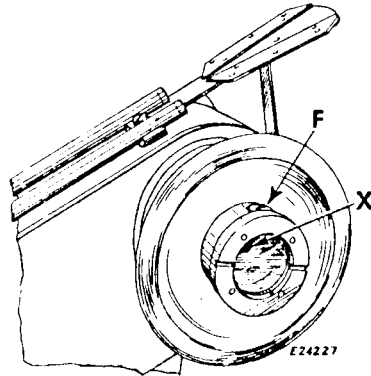

Fig. 3
2. Turn the machine pulley to bring the screw plug **F**, Fig 3 to the top, remove this plug and fill the reservoir practically to the top. THE OIL LEVEL IN THIS RESERVOIR SHOULD NEVER BE ALLOWED TO GO BELOW THE HOLE **X**, FIG. 3 AT THE CENTER OF THE ARM SHAFT. If the oil is down to the bottom of this hole, add oil before starting. Recheck the oil level, after running the machine a few minutes and add oil when necessary.